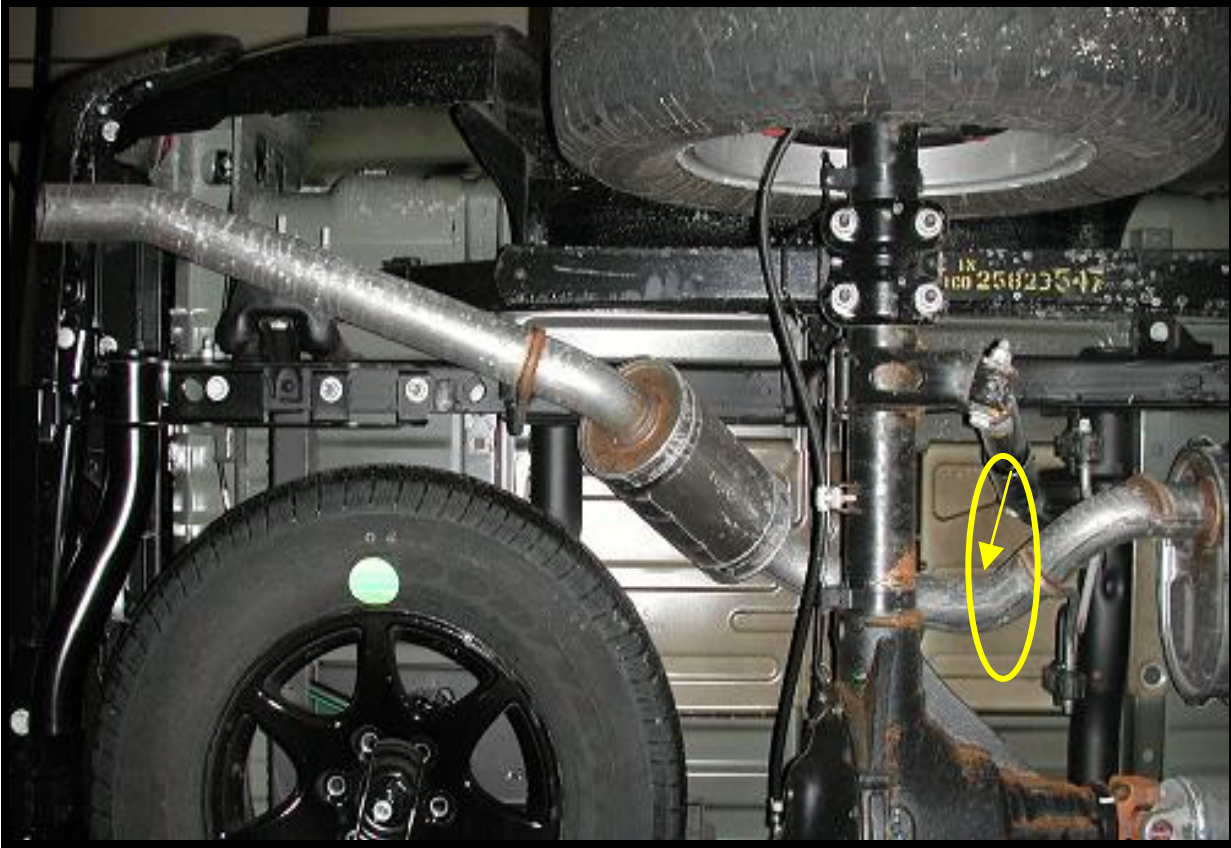

Figure 1: Exhaust Pipe Cut Location
- 2 Begin by supporting the muffler and then carefully cut the pipe at the rear of the muffler... See **figure 1**.